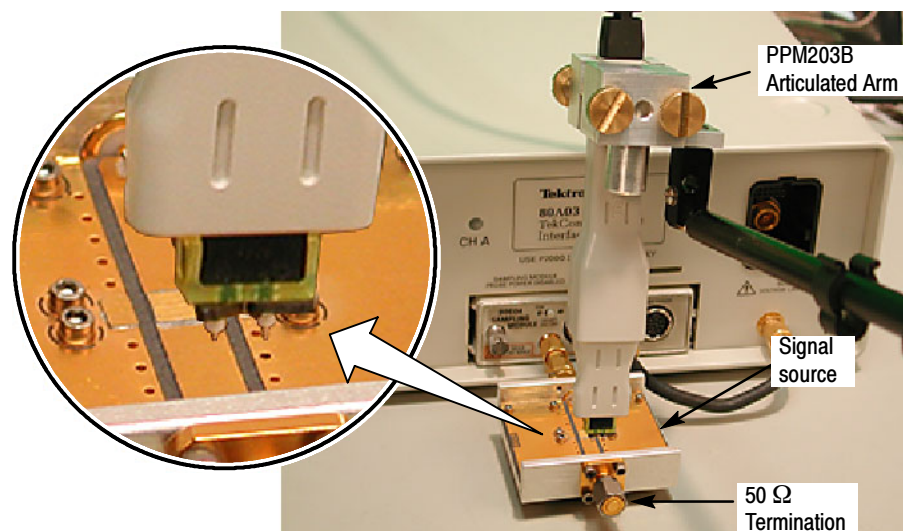

Figure 16: PPM203B Articulated Arm with the Handheld adapter
3. Probe the calibration fixture using the Handheld adapter (see Figure 16).